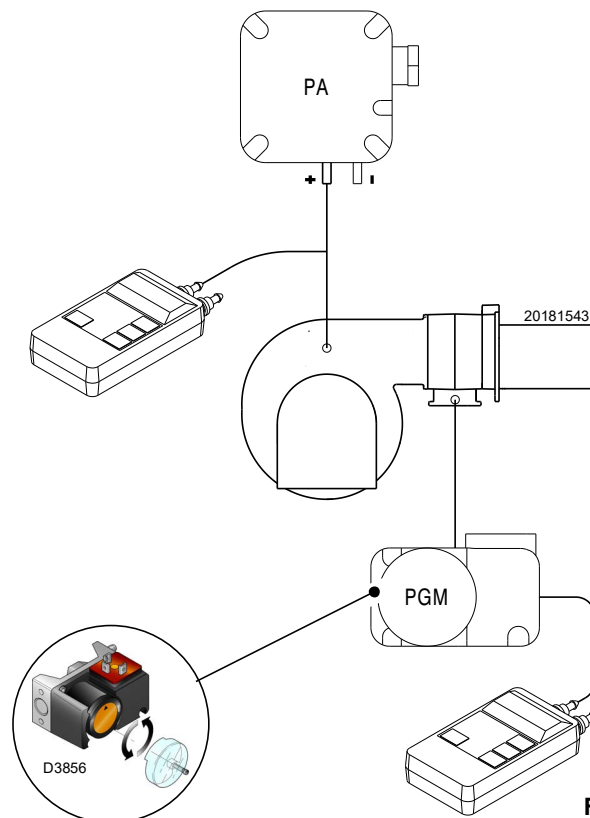

Fig. 39
- Adjust the high gas pressure switch to the upper limit of the scale (Fig. 39 on page 39).
Adjust the maximum gas pressure switch (Fig. 39) after making all other burner adjustments with the maximum gas pressure switch set to the end of the scale.